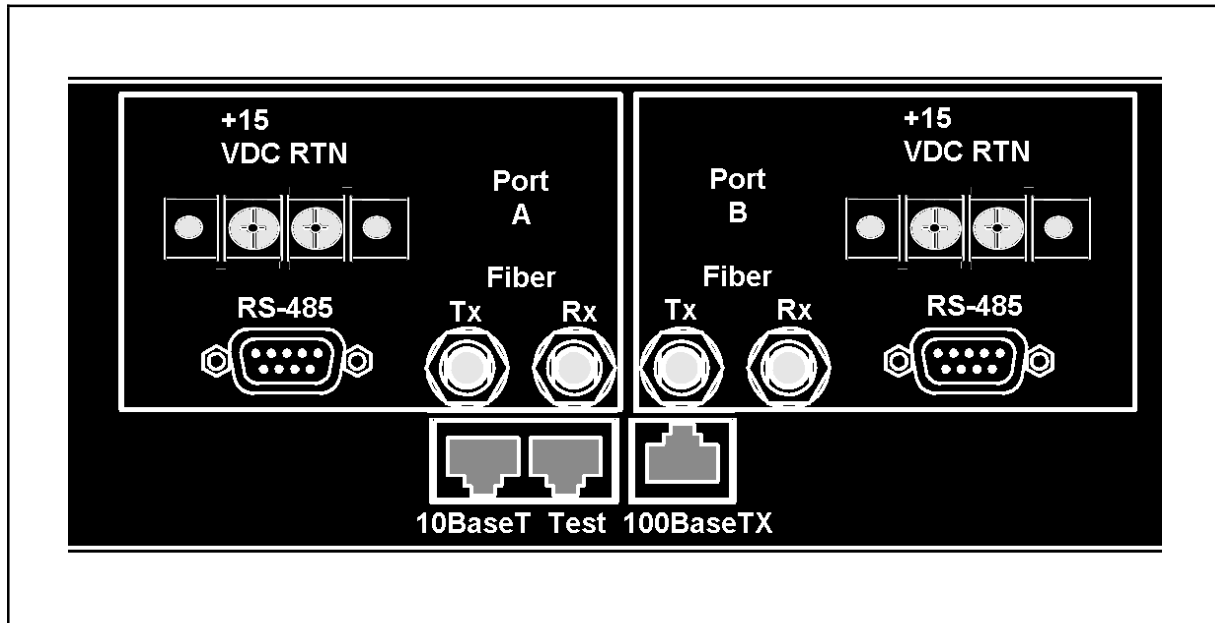
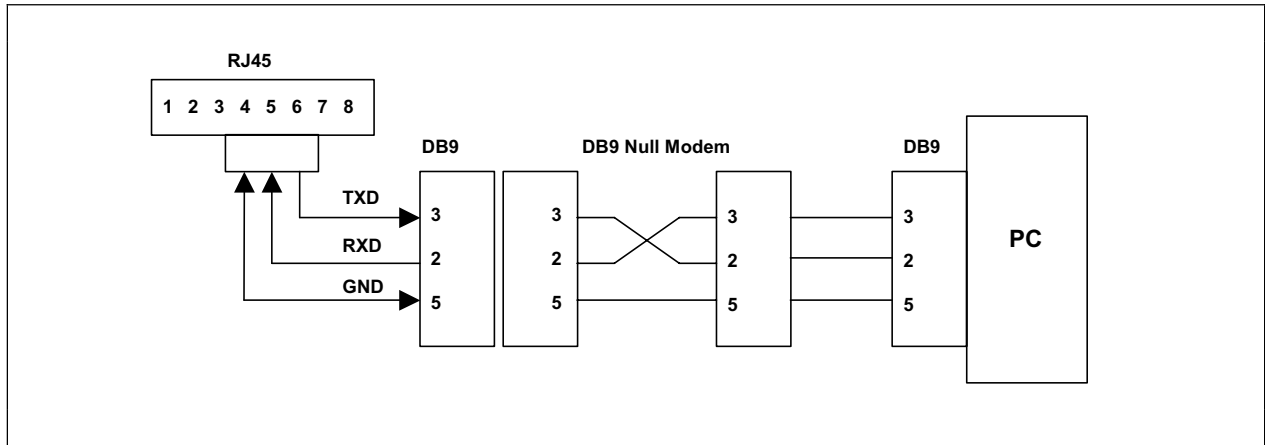

Figure 6-6: Backhaul Router – Output Connections
Figure 6-8: Maintenance Port (TEST) Serial I/O
The Ethernet port is labeled 10Base-T (see Figure 6-6). It is used to connect the Backhaul Router through a Hub to a Cisco (or similar) Network Access Router.
2. Connect the fiber optic cables onto the ST connectors on the rear of the Backhaul Router (see Figure 6-6).
3. Connect the Transmit (TX) output on the rear of the Backhaul Router to the Receive (RX) input in the Tower Top Radio
- Connect the Receive (RX) input on the rear of the Backhaul Router to the Transmit (TX) output in the Tower Top Radio.
An RJ-45-to-DB-9 adapter is required to connect the Backhaul Router (TEST) to the PC (see Figure 6-6). The cable shown in Figure 6-8 can be used to connect the Backhaul Router to most computers and terminals. Refer to Table 6-5 for connector pin outs.